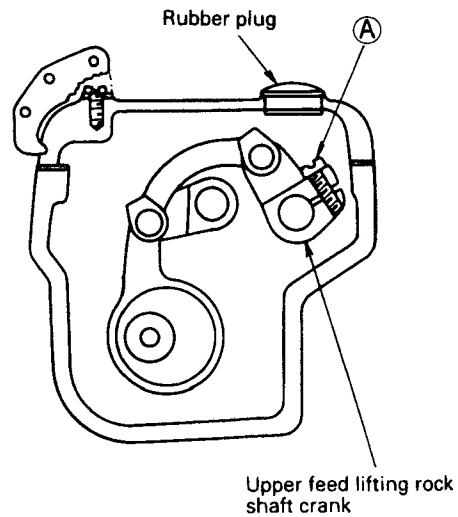

Fig.24
**2) To change the balance of the alternating movements between the walking foot and presser foot (Fig.24):**